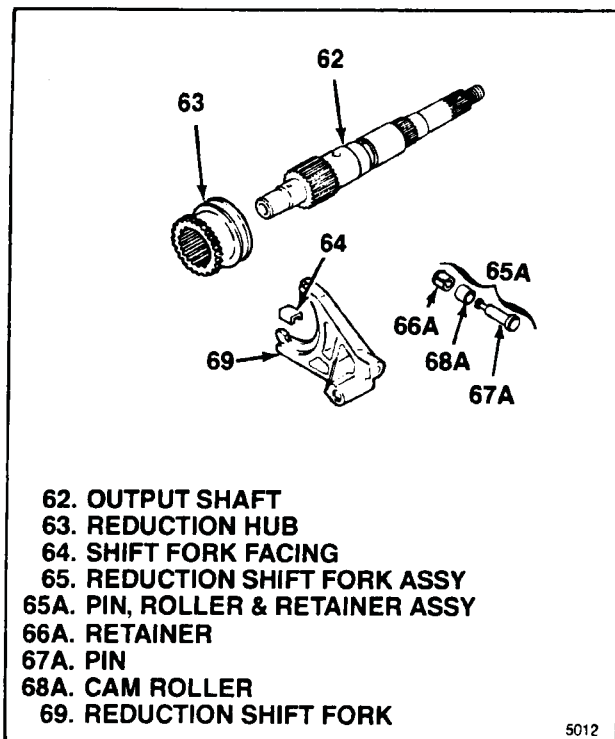

Figure 5-12. Reduction Shift Parts
**5-10. ASSEMBLY OF REDUCTION SHIFT PARTS.** Assemble and install parts as follows (see figure 5-12):
a. If disassembled for parts replacement, assemble reduction shift fork assembly (65) using new pin, roller and retainer assembly (65A). Press pin, roller and retainer assembly into bore in reduction shift fork (69) until retainer (66A) passes completely through and snaps in place. Make sure that cam roller (68A) turns freely.
b. Install two fork facings (64) on reduction shift fork assembly (65).
c. Engage reduction shift fork assembly (65) with reduction hub (63) and position in transfer case, reduction hub in gear carrier assembly previously installed. On mechanical shift units only, engage cam roller (68 or 68A) in cam slot in shift cam previously installed.
d. Install output shaft (62), engaging output shaft end with input shaft bearings and output shaft spline with reduction hub.